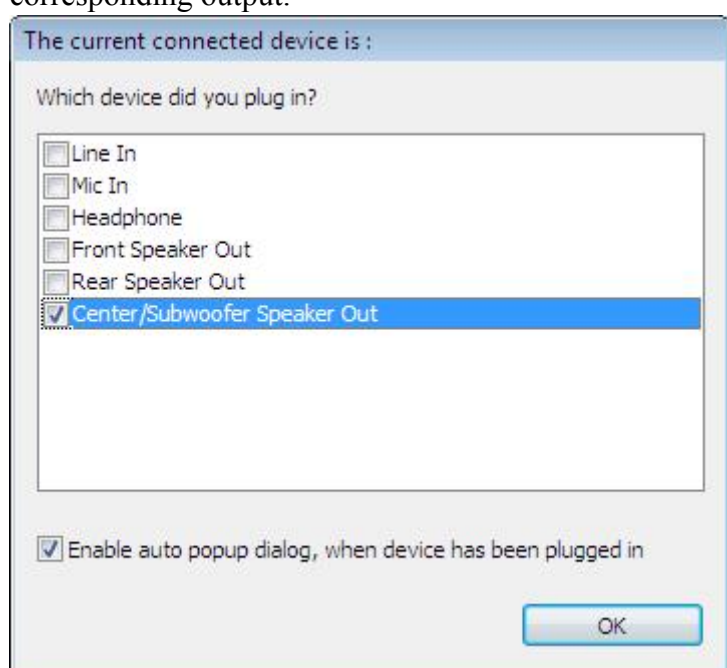

Fig 15
6. Select Redistribution of Connectors. Then an interface will pop up, as shown in Fig. 15. After that, set the corresponding output.